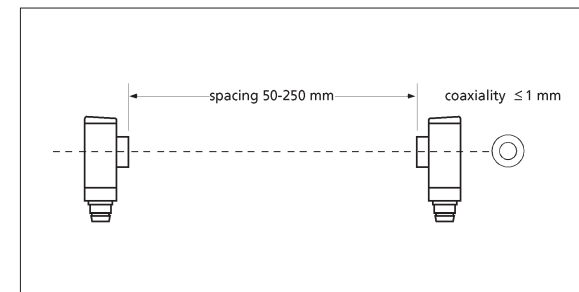

Fig. 3: Mounting of ews-15/CD
- Mount two sensors ews-15/CD at the installation site (see fig. 3). Maximum torque: 0,5 Nm